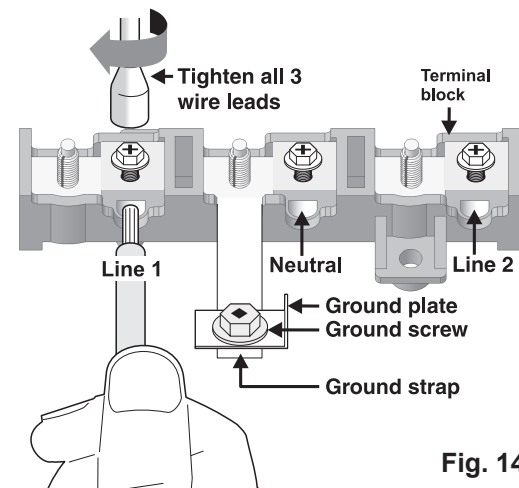

Fig. 14
2. (3 & 4 - Wire Permanent Connections) Strip insulation away from the ends of the permanent wiring for Line 1, Line 2, Neutral (also strip ground wire on 4-Wire Connections). Tighten all 3 wire leads to the terminal block (Follow wire locations shown in Fig. 14). **IMPORTANT NOTE: DO NOT LOOSEN** the factory installed nut connections which secure the range wiring to the terminal block. Electrical failure or loss of electrical connection may occur if these 3 nuts are loosened or removed. NOTE: For 3-Wire Permanent Connections skip Steps 3 & 4 and continue with Step 5.